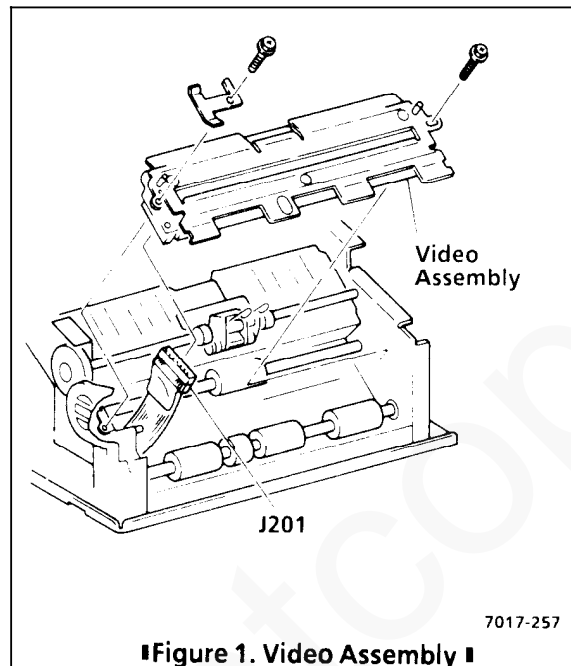

Figure 1. Video Assembly
5. Remove platen roller. (Figure 1)
- *Ensuring both scan pivot springs are properly positioned in the cutouts in the upper scan frame and on top of the locating tabs on the LH and RH frame (Figure 1). The spring coils can bind between the upper scan frame and the scan pivot shaft.*
6. Remove video assembly. (Figure 1)
5. Remove scan pulley/gear. (Figure 1)
10. Remove scan motor. (Figure 1)
4. Remove sensor. (Figure 1)